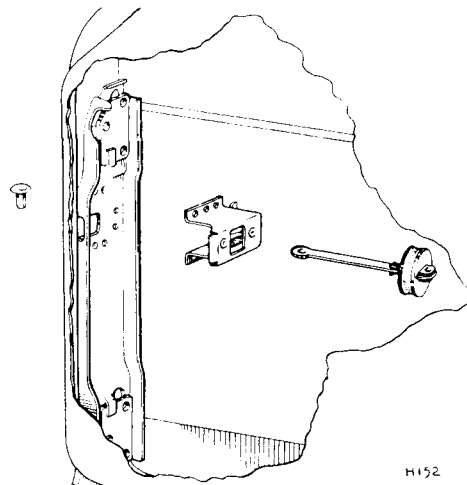

Fig. 46. Check strap bracket
R. Check Strap Bracket: To Remove (Fig. 46)